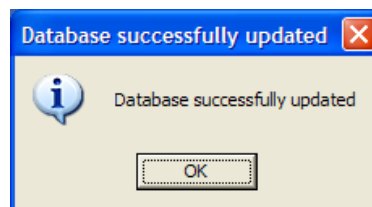

**Figure 30: DBE File Searching**
2. Browse to the location of standard application packaged files with the .dbe extension. See Figure 30.